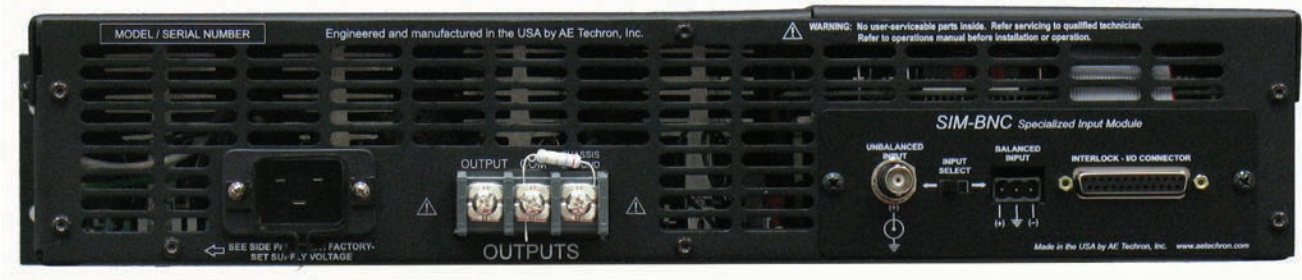

Figure 3.1 – 7212 Back Panel
The Power Switch controls the AC mains power to the amplifier. Switch to the ON position (I) to turn the amplifier on. Switch to the OFF position (O) to turn the amplifier off. See **Figure 3.1**.